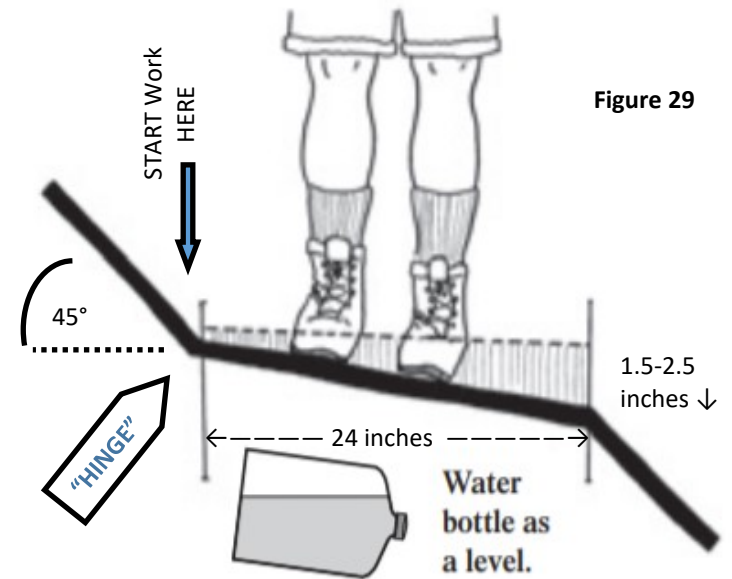

Figure 29
Treadwork Basics: See figures 29, 30, and 32
- Create a 45 degree down-slope at the up-slope border (hinge) to stabilize the upslope and prevent sloughing (figure 29)